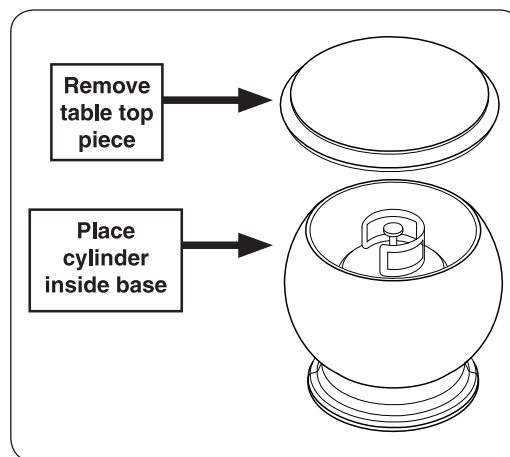

Fig. 2-2 L.P. cylinder placement
2. The L.P. cylinder (not included) is to be located inside the base of the tank table. To place the cylinder, remove the table top piece, then insert the cylinder (see Fig. 2-2).